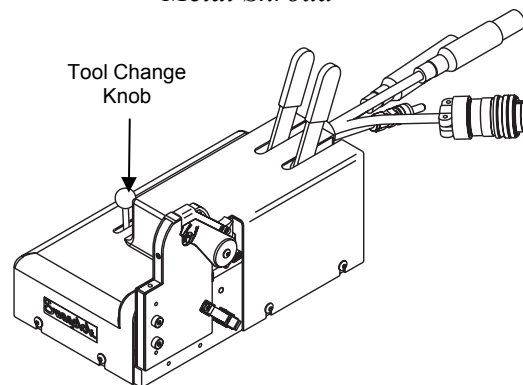

Figure 59 *Reinstalling the Tool Change Knob*
22. Reinstall the tool change knob. See Figure 59.